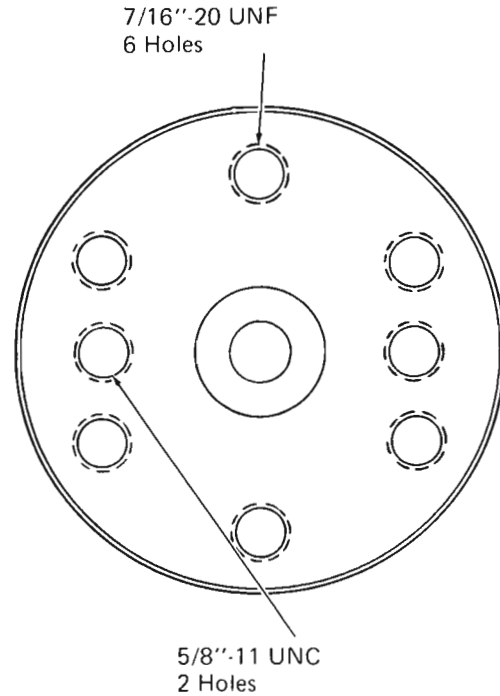

Fig. 4 - Commutator End Shaft Bolt Holes
5. Inspect the threads of the bolt holes on the commutator end of the shaft, Fig. 4. If threads are nicked or slightly damaged, retap holes. The threads must be class 1B. If threads are severely damaged or beyond thread pitch diameter limits, replace shaft with a new shaft.